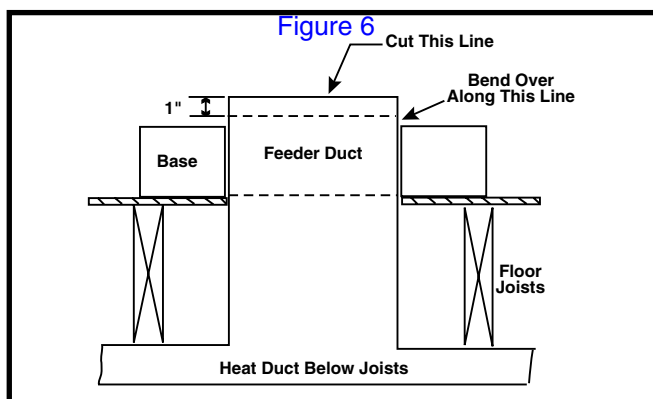

Figure 6. Feeder Duct Installation
8. Slit the corners of the feeder duct down to the top of the base pan as shown in Figure 6 \(page 9\). While the top of the distribution duct is pulled up with one hand, bend down each side of the feeder duct tightly to the base with the other hand. Trim the metal to allow a one inch flange over the top of the base pan and seal that flange with metal tape.